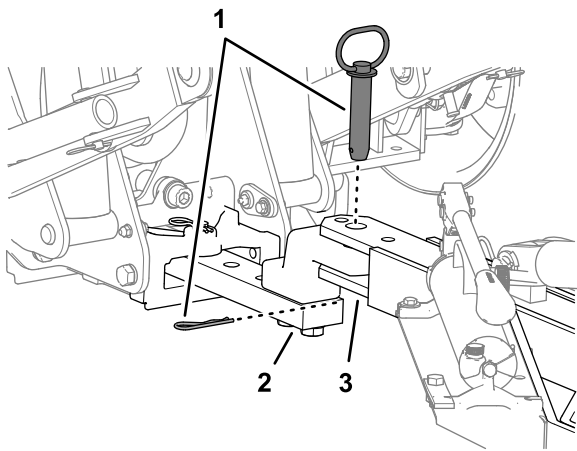

**Figure 12**
5. Use the hydraulic hand pump, move the lift arm (Figure 12) just rearward of the forward holes in the lock-bar bracket (transport position).
6. Insert the lock-bar pin into the forward holes in the lock-bar bracket and secure the lock-bar pin to the bracket with the hairpin (Figure 12).